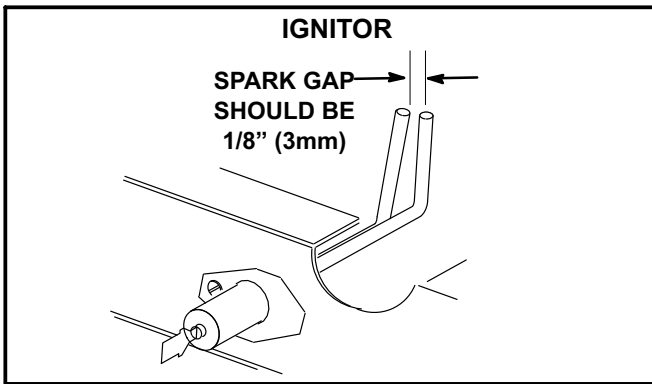

FIGURE 41
- 4- Locate the ignitor under the left burners. Check ignitor spark gap with appropriately sized twist drills or feeler gauges. See figure 41.